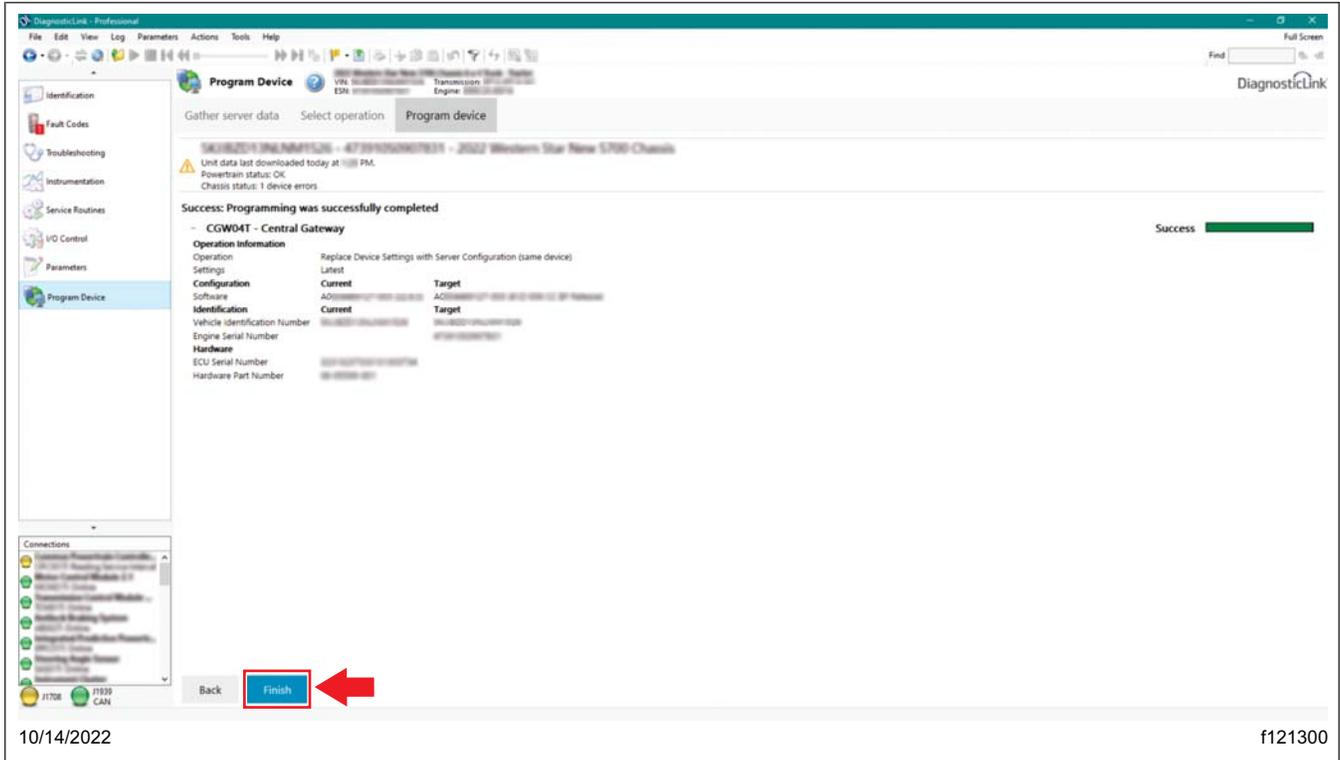

Fig. 18, Flashing Successful
21.5 Once the flashing is successful, select 'Finish.' See Fig. 18.